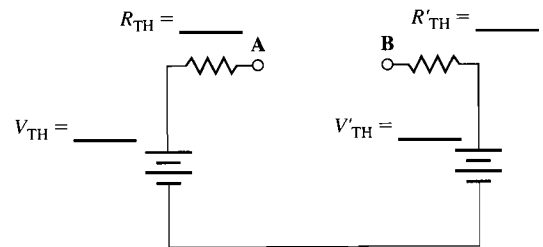

Figure 13–4
- Draw in the load resistor between the **A** and **B** terminals in the circuit of Figure 13–4. Show the value of the measured resistance of R_L . Use the superposition theorem to compute the expected voltage drop, V_L , across the load resistor. Enter the computed voltage drop in Table 13–2.
- Place the load resistor across the **A** and **B** terminals of the bridge circuit (Figure 13–3) and measure the load voltage, V_L . If the measured value does not agree with the computed value, recheck your work. Enter the measured V_L in Table 13–2.
- Monitor the voltage across the load resistor and carefully adjust R_4 until the bridge is balanced. When balance is achieved, remove the load resistor. Measure the voltage from **A** to ground and the voltage from **B** to ground. Since the load resistor has been removed, these measurements represent the Thevenin voltages of the balanced bridge. Enter the measured voltages on Figure 13–5.
- Replace the voltage source with a short. With the short in place, measure the resistance from point **A** to ground and from point **B** to ground. Enter the measured resistances on Figure 13–5.
- Use the superposition theorem to combine the two Thevenin sources into one equivalent circuit. Show the values of the single equivalent circuit on Figure 13–6.